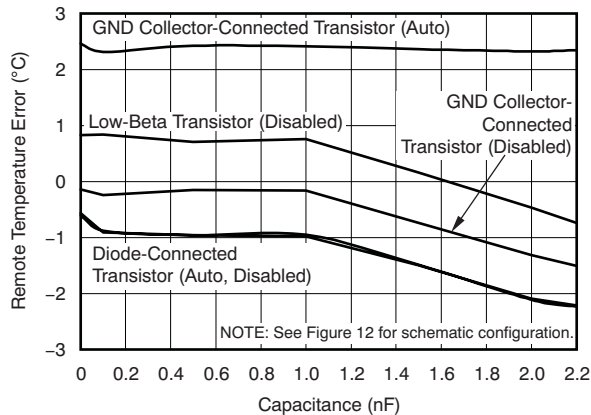

Figure 9.
The TMP435 can tolerate differential input capacitance of up to  $2200\text{pF}$  with minimal change in temperature error. The effect of capacitance on sensed remote temperature error is illustrated in Figure 9 and Figure 10, Remote Temperature Error vs Differential Capacitance. See the Filtering section for suggested component values where filtering unwanted coupled signals is needed.
- (1) Diode-connected configuration provides better settling time. Transistor-connected configuration provides better series resistance cancellation.
- (2)  $R_S$  (optional) should be  $< 1\text{k}\Omega$  in most applications. Selection of  $R_S$  depends on specific application; see Filtering section.
- (3)  $C_{DIFF}$  (optional) should be  $< 2200\text{pF}$  in most applications. Selection of  $C_{DIFF}$  depends on specific application; see Filtering section and Figure 9, Remote Temperature Error vs Differential Capacitance.